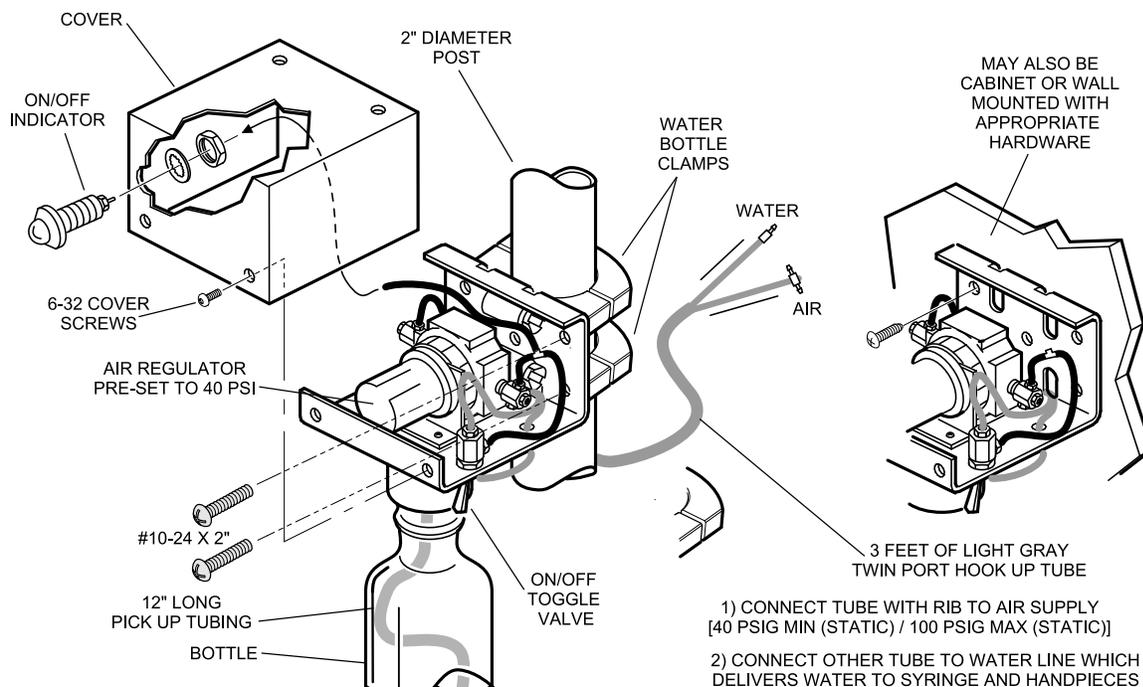

Figure 5
- ⑩ Locate the 1/8" red tube in the fixed arm. Cut the line and attach two ends of the tee fitting to the tube (See Figure 5).
- ⑪ Connect the tee fitting to the end of the twin port tubing which will supply air to the bottle regulator (**ribbed tube**).
- ⑫ Locate the blue 1/8" tube. Cut and plug the end coming from the J box.
- ⑬ Attach the other end of the blue tube to the remaining twin port tubing end (**un-ribbed tube**). This step connects the water line from the bottle to the instrument head.
- ⑭ Arrange the tubing and connections neatly in the fixed arm to avoid kinking and replace the bottom cover and end cap.
1) Connect air to the twin port hook up tube with the rib. Water to be supplied will be delivered from the other tube (un-ribbed) (See Figure 5).